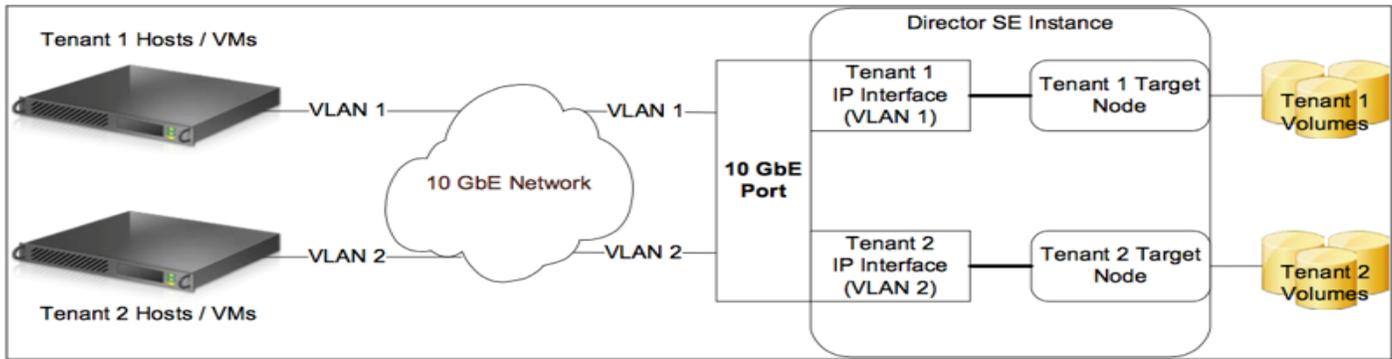

Figure 1. Core components in a VMAX
Figure 1 shows the VMAX iSCSI design, including the use of VLAN for network isolation, and the separation of storage IP interfaces and target nodes from the physical ports on each director and iSCSI storage module (SE).